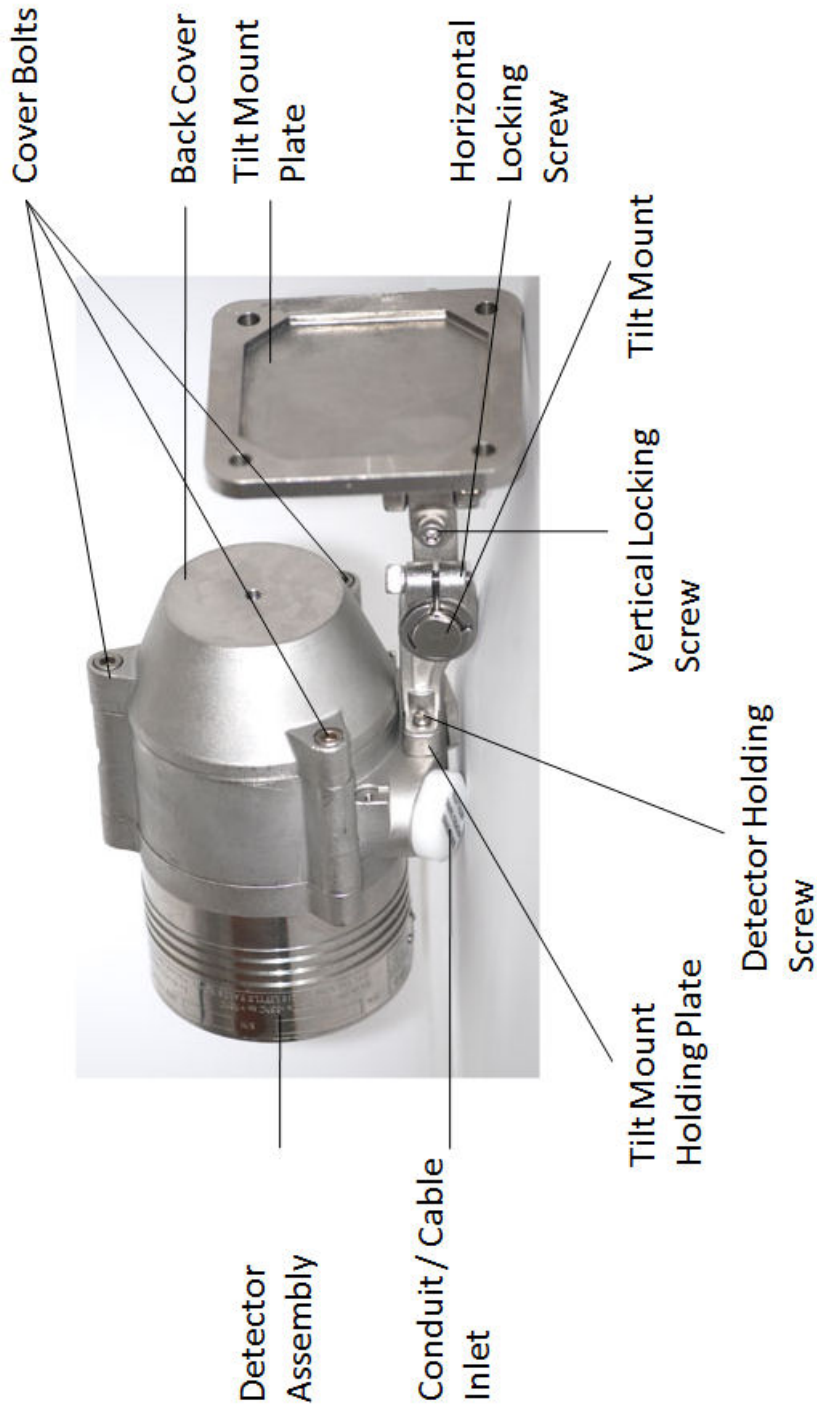

Figure 4: Detector with Tilt Mount
Figure 4 shows the Detector mounted on the Tilt Mount.
- 9 Place and secure the detector's back cover by screwing the four (4) socket-head-screws in the Cover Bolts (Figure 4).